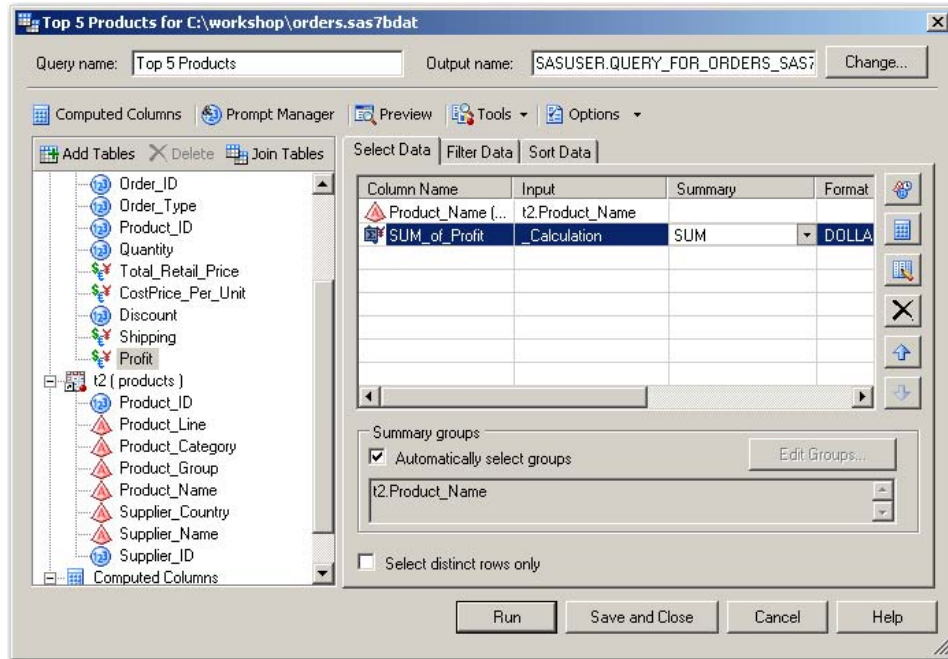

Figure 4. Query Builder
5. Verify that the **Select Data** tab is active and drag the Product_Name and Profit columns over. Change the Summary pull-down option to **SUM** for Profit. This automatically groups products and creates a summary of profit for each product name. See Figure 4 below.